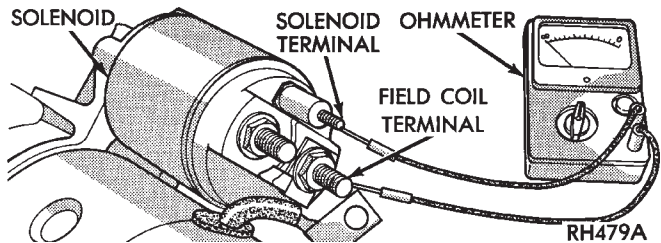

Fig. 6 Continuity Test Between Solenoid Terminal and Field Coil Terminal
- (1) Disconnect field coil wire from field coil terminal.
- (2) Check for continuity between solenoid terminal and field coil terminal with a continuity tester. There should be continuity (Fig. 6).